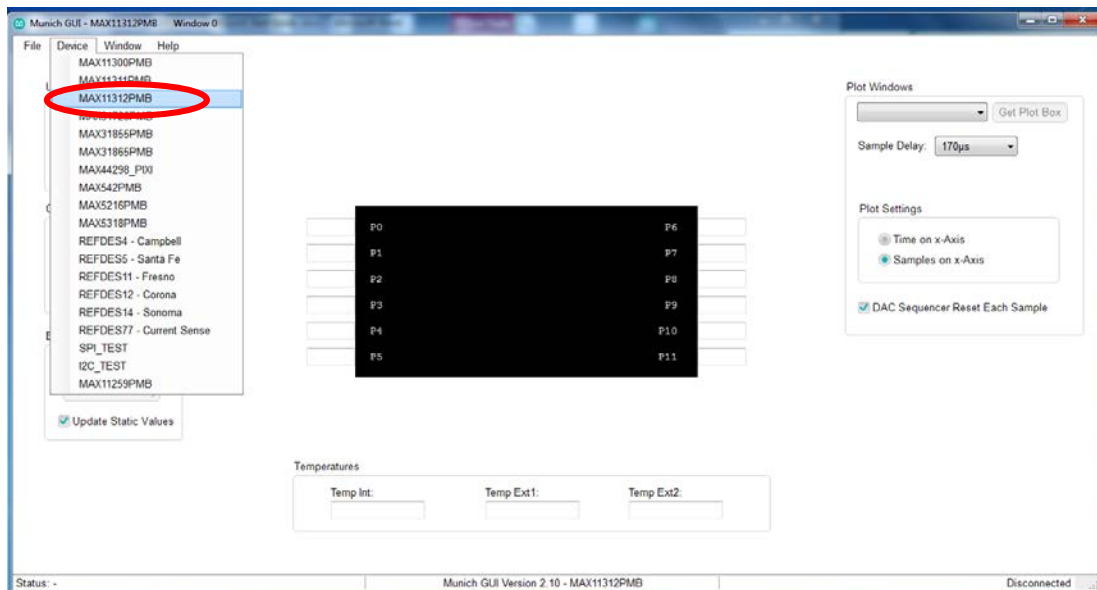

Figure 8. The Munich GUI.
- 6) Click on **Device** tab and select the **MAX11312PMB#** as shown in **Figure 8**, the Munich GUI.